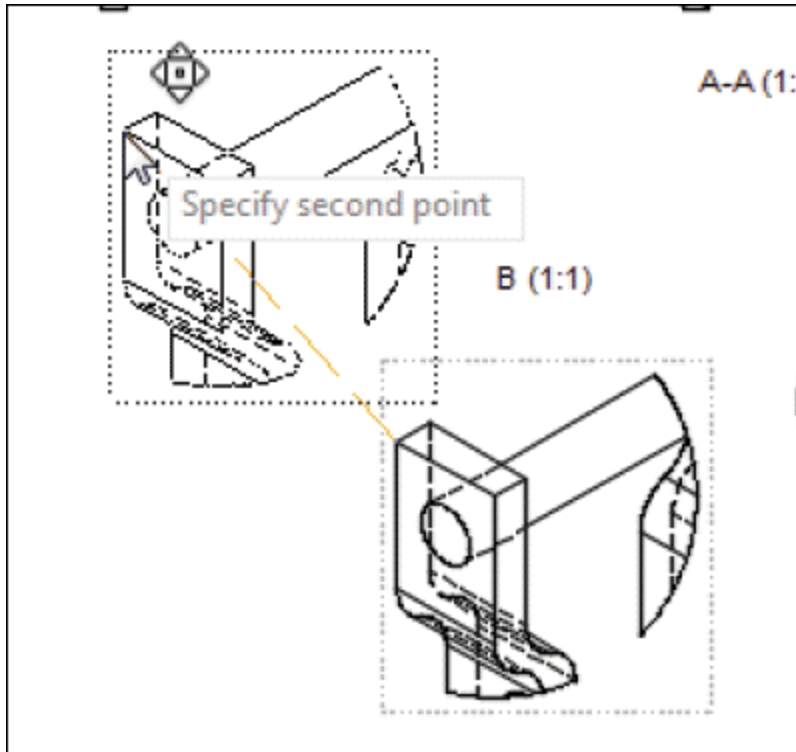

Figure-35. Specifying second point
- Click on **Transform** button from **MOVE** dialog box and select a base point from the selected view. The selected view will get attached to the cursor to move the view from one place to another; refer to Figure-35.